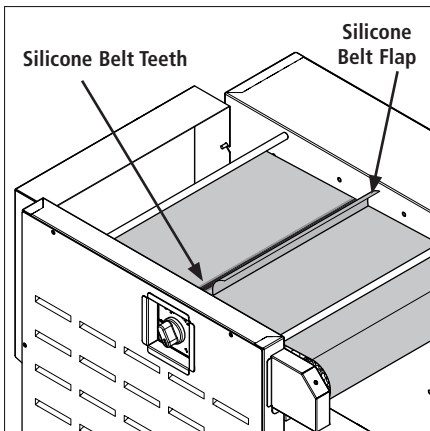

Figure 6. Removing Silicone Belt
4. Make sure flap of the Silicone Belt is accessible on the top side. Pull the Silicone Belt Pin out of the zipper on the Silicone Belt (Figure 6).
8. Install the new Silicone Belt in the front of the toaster above the Platen. Wrap the Silicone Belt around the Conveyor Belt Chain with the zipper flap exposed to the REAR of the unit (Figures 6 and 7).
3. Make sure flap of the Silicone Belt is accessible on the top side. Pull the Silicone Belt Pins out of the zipper on the Silicone Belts (Figure 6).
3. Make sure flap of the Silicone Belt is accessible on the top side. Pull the Silicone Belt Pin out of the zipper on the Silicone Belt (Figure 6).